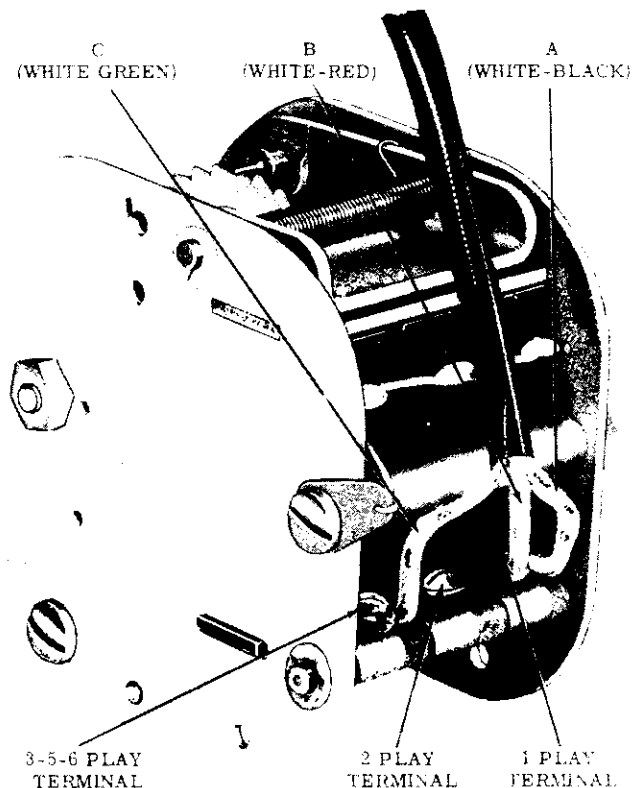

FIG. 2 - VIEW OF ACCUMULATOR
For example, accumulator in Fig. 2 has been wired to show position of wiring for 1 play 10¢ and 3 plays for 25¢ operation.
- C. Remove white-red tracer wire (B-Fig. 2) from two play terminal on accumulator, and solder to one play terminal where white-black tractor wire (A-Fig. 2) is already connected.